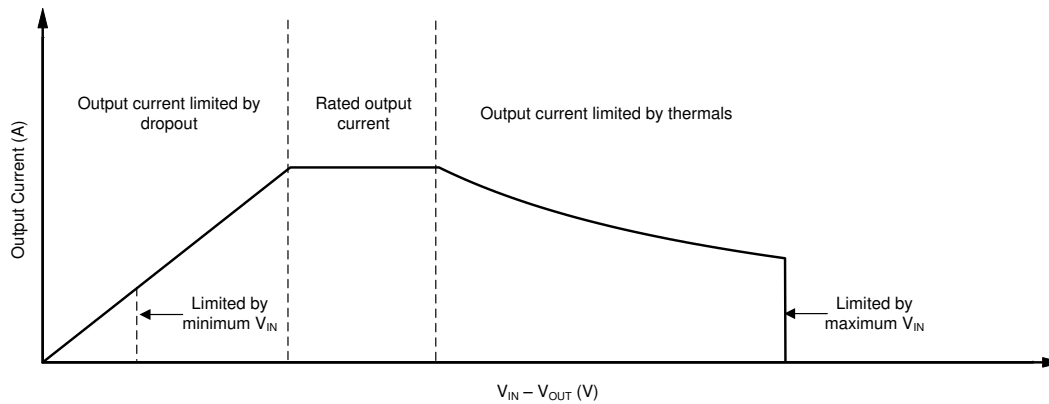

Figure 8-3. Region Description of Continuous Operation Regime
The operational area of an LDO is limited by the dropout voltage, output current, junction temperature, and input voltage. The recommended area for continuous operation for a linear regulator is given in 图 8-3 and can be separated into the following parts:
- The shape of the slope is depicted in the third region of 图 8-3. The slope is nonlinear because the maximum-rated junction temperature of the LDO is controlled by the power dissipation across the LDO. Thus, when $V_{IN} - V_{OUT}$ increases the output current must decrease.
Figure 8-3 shows the recommended area of operation for this device on a JEDEC-standard high-K board with a $R_{\theta JA}$, as given in the *Thermal Information* table.